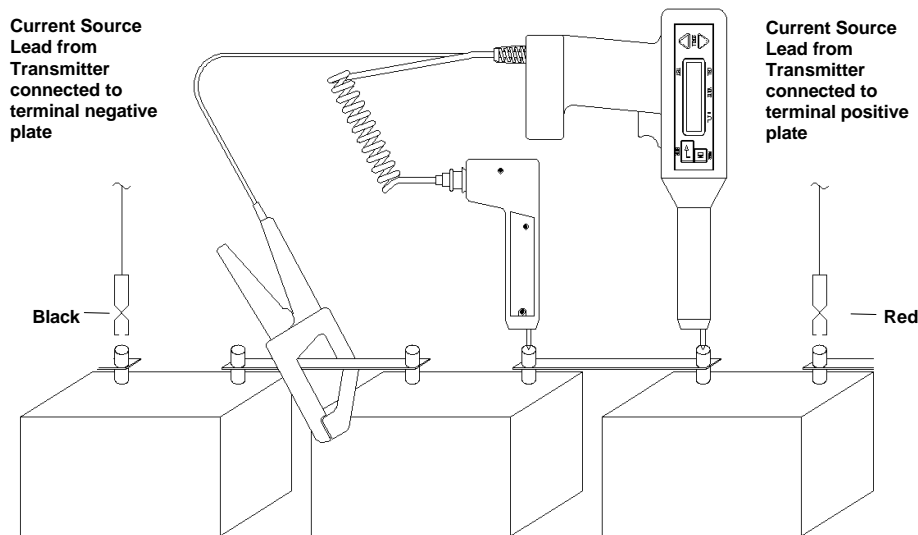

Figure 4-7: Receiver and potential probe positioned on top of battery strap terminals
4. Position the **receiver** and potential probe on top of the battery strap terminals, and then press the probes down. See the sample placement shown in Figure 4-7.
See the sample placement shown in Figure 4-7 on page 40.